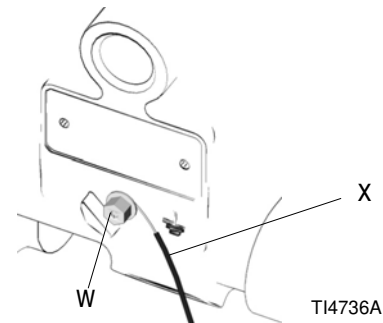

FIG. 1: Ground Wire Connection
- **Pump:** Connect a ground wire and clamp as shown in FIG. 1. Loosen the grounding screw (W). Insert one end of a 1.5 mm² (12 AWG) or thicker ground wire (X) behind the grounding screw and tighten the screw securely. Connect the clamp end of the ground wire to a true earth ground.